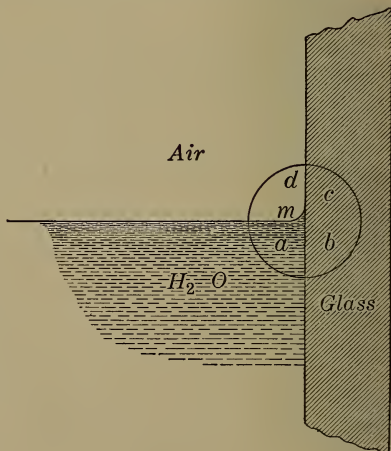

FIGURE 302.—WATER IN CONTACT WITH GLASS.
**323. Capillarity.** — Capillarity is an application of surface tension. Figure 302 shows water in contact with glass. The water against the glass is curved *up*; because glass has a greater attraction for water than water has for water; therefore the glass in quadrant (*c*) pulls the molecule of water (*m*) more than the water in quadrant (*a*). Also the glass in (*b*) pulls (*m*) more than does the air in (*d*). This makes the surface of the water curve as shown in the figure.